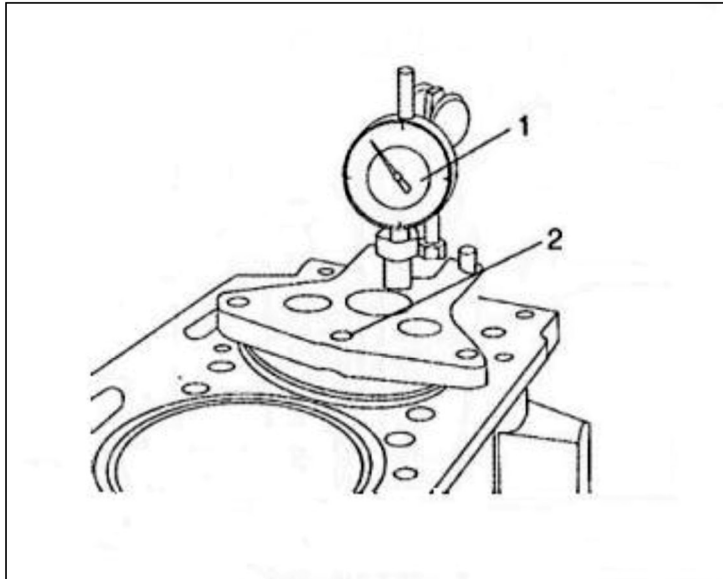

Figure 3-16
Check with piston displacement method (Fig. 3-16 and 3-17).
- The measuring rod of dial gauge with clamp is placed on valve stem top (Fig. 3-16).